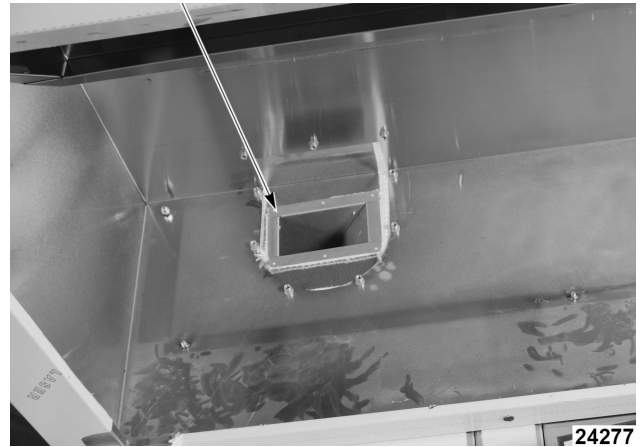
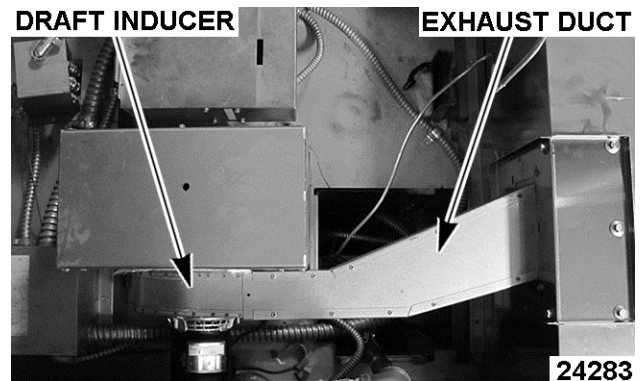

Fig. 117
Fig. 118
- Insert exhaust duct through hood (Fig. 117) and connect to draft inducer (Fig. 118).